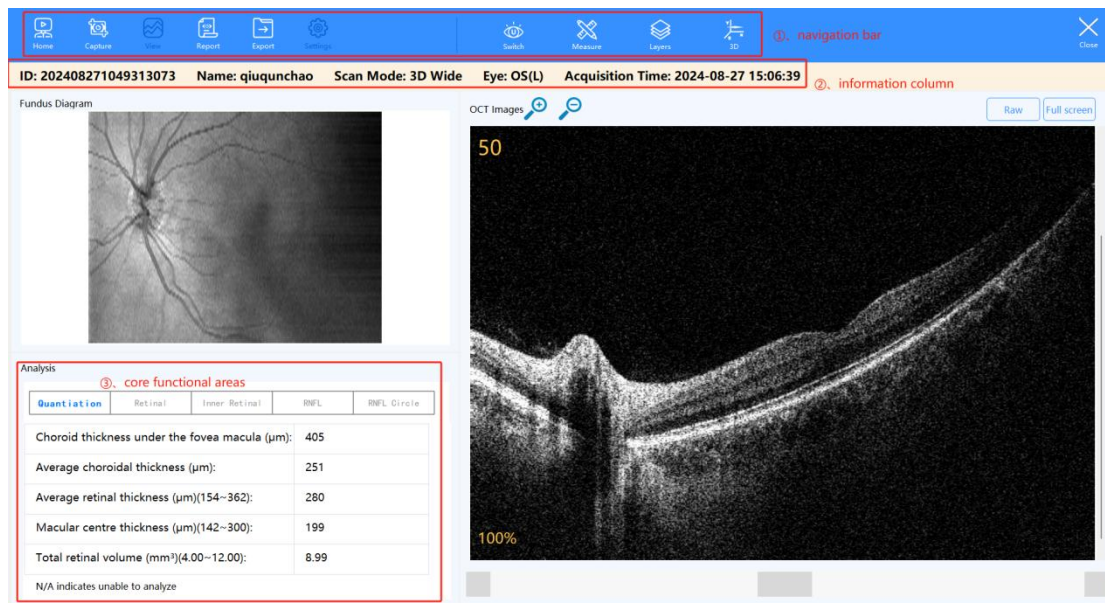

Figure 2-1 A three-part schematic of the interface
This software is divided into 8 interfaces, all sectors can be basically divided into [navigation bar] (eg Figure 2-1 ①), [information column] (eg Figure 2-1 ②) and [core functional areas] (eg Figure 2-1 ③) Three parts.